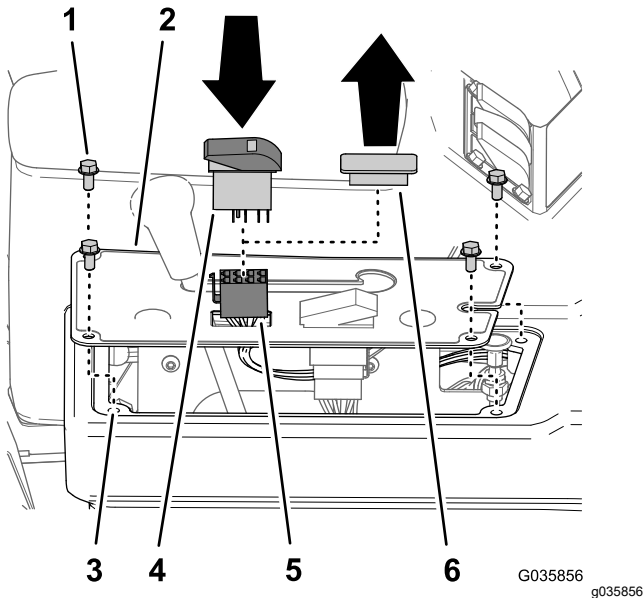

Figure 34
1. If installed, remove the 4 flange-head bolts (1/4 x 1/2 inch) that secure the panel cover to the top of the console as shown in Figure 34.
2. Remove the switch plug from the panel cover of the console (Figure 34).
3. Align the 8-socket connector of the wiring harness of the ultra sonic boom finishing kit through the opening in panel cover (Figure 34).
labeled SONIC MODE MANUAL VS. AUTO to the rocker switch (Figure 34).
5. Insert the rocker switch in the dash panel opening until the switch snaps securely (Figure 34).
6. Align the holes in the panel cover to the holes in the top of the console (Figure 34).
7. Secure the panel to the console with the bolts (Figure 34) that you removed in step 1.